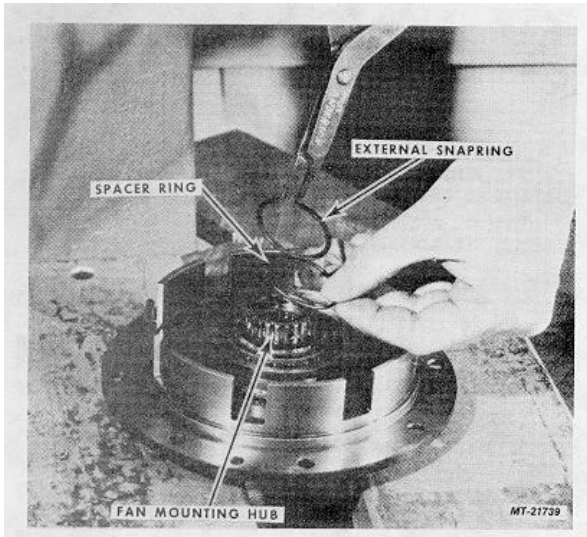

Fig. 47
10. Install Spacer Ring and External Snapping, Fig. 47.